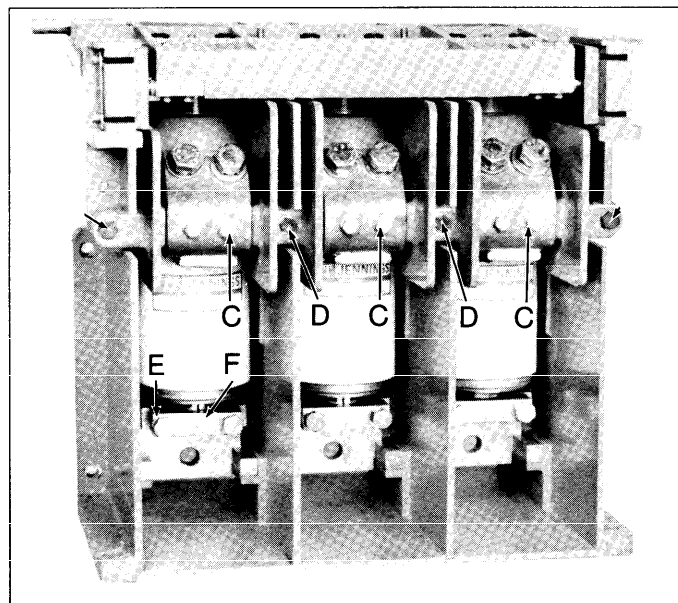

Figure 10. Removal of screws attaching the flexible braid assemblies with the terminal support bar.
2. Remove the six (6) screws which attach the flexible braid assemblies to the terminal support bar. Item C, Figure 10.
3. Remove the four (4) screws that attach the terminal support bar to the contact box. Item D, Figure 10. Lift the terminal support bar out of the contact box.
4. Remove the two (2) clamp block screws and the clamp block from the bottom of the interrupter assembly. Items E and F, Figure 10.